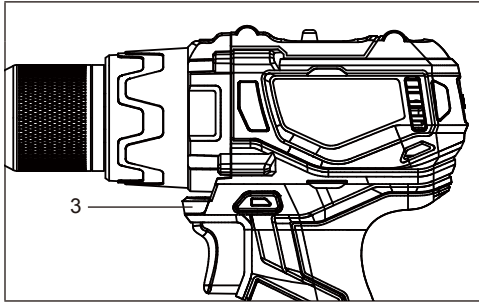

FIG. 8
The LED work light (3) will automatically turn ON when the trigger switch is squeezed (Fig. 8). It will automatically turn OFF when the trigger switch is released.